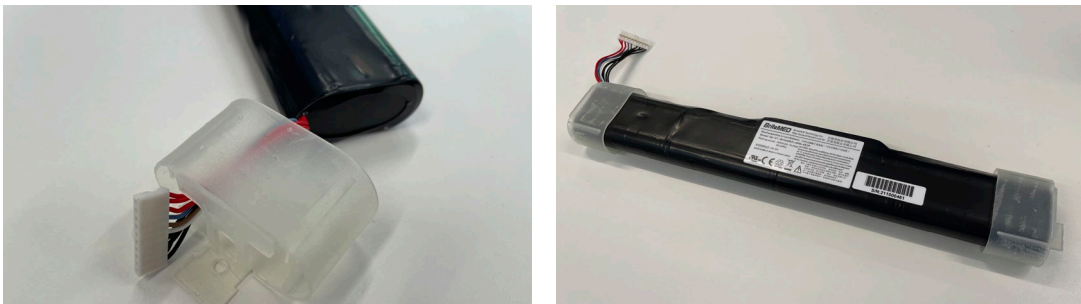

Figure 18 Mount battery caps as shows by the arrows
- d) Mount the battery caps on the new battery (Figure 18)